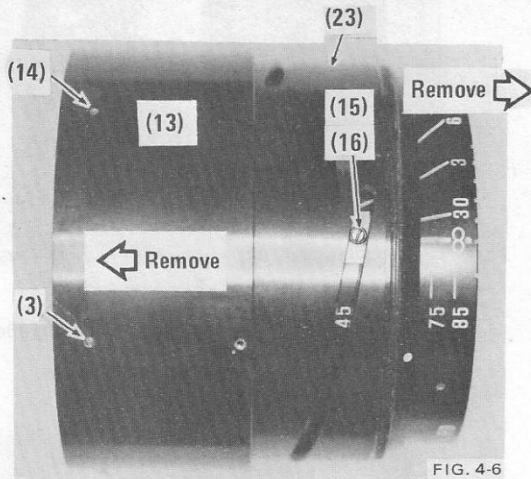

FIG. 4-6
- e) Remove six setscrews (14), that attach inner focusing ring (13) to the lens. Slide focusing ring off front of lens. Fig. 4-6.
- f) Remove bridge ring roller shaft (27) and bridge ring roller (26) from each side of lens. Slide cam ring (23) off to rear of lens. Fig. 4-6.